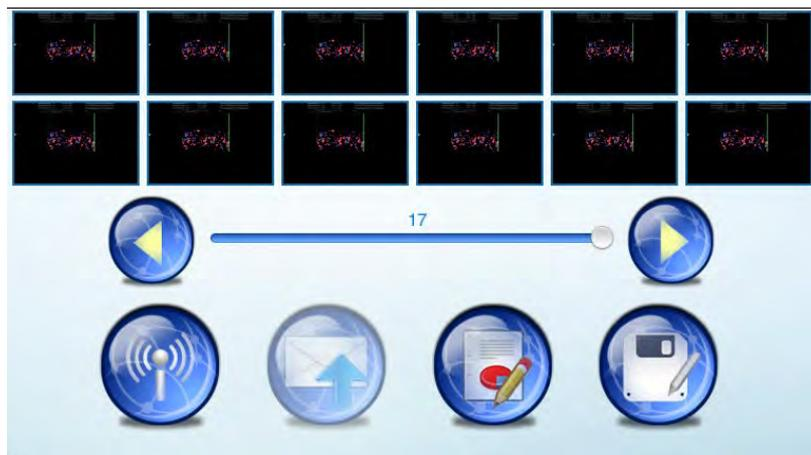

Fig. G-15 Saving images on an iPad
- If the Apple device in use is an iPad, the screen can display up to 12 diagnostic images, which are saved in the report format. Up to four images can be saved in one report. To save 12 images, 3 reports need to be created, as shown in Fig. G-15.